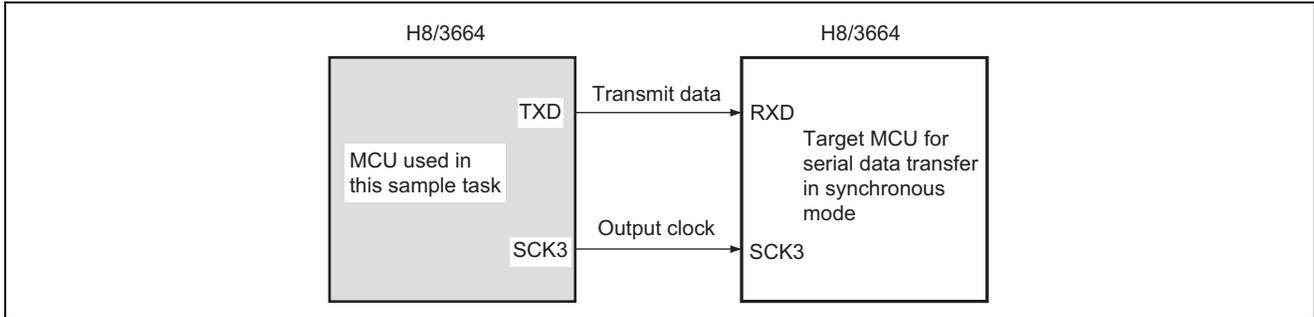

Figure 1 Serial Data Transmission in Asynchronous Mode
1. Four bytes of 8-bit data are transmitted by serial data transfer in asynchronous mode, as shown in figure 1.